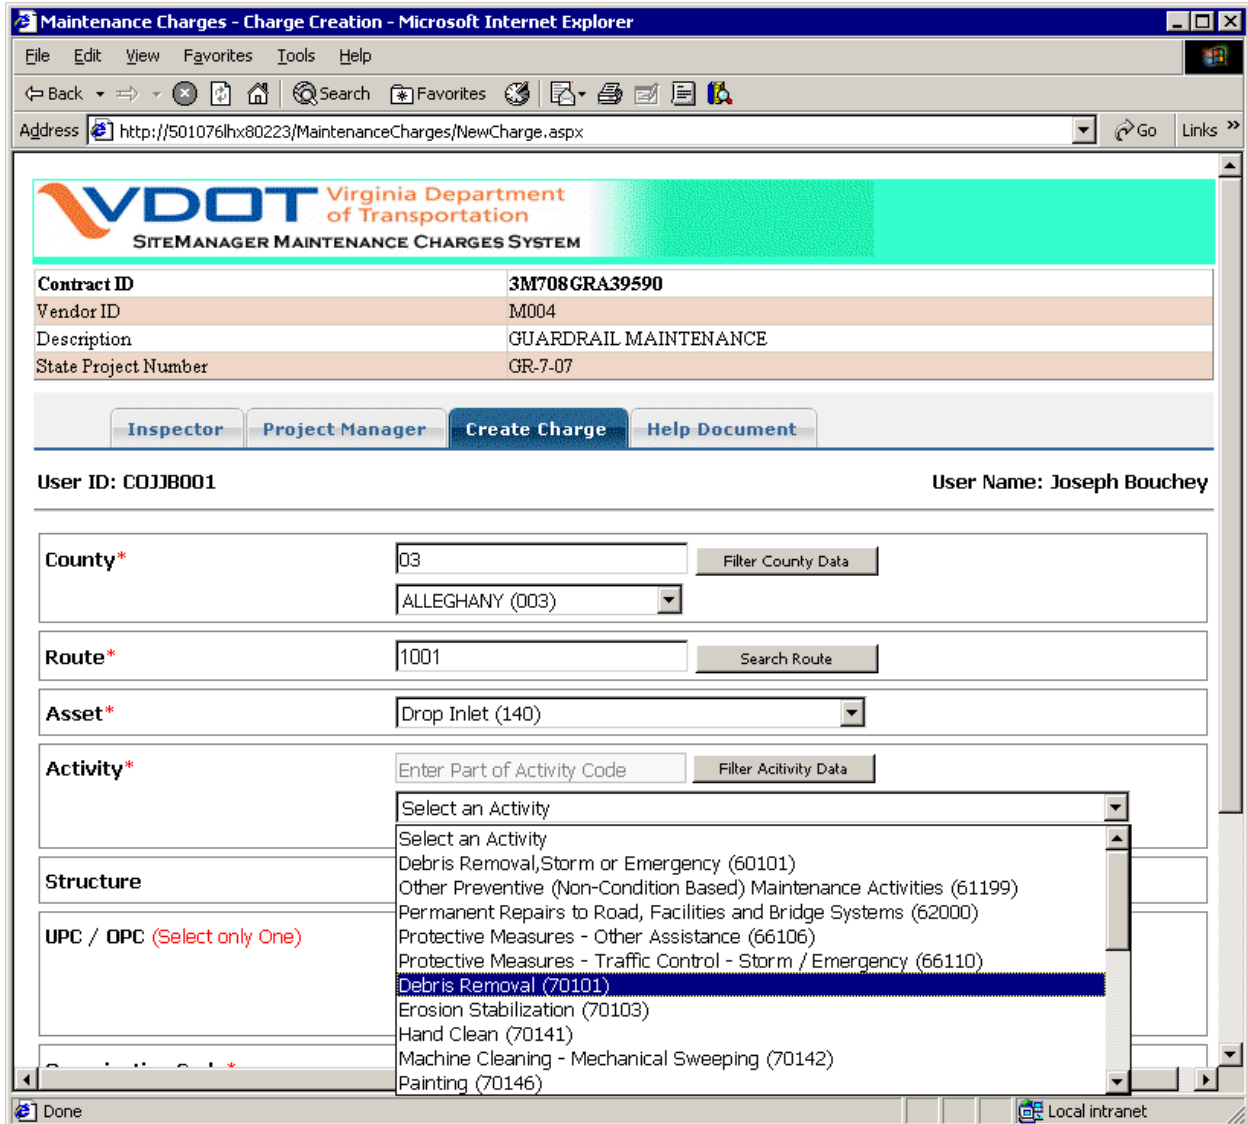

Figure 24
Step 5: Select the Activity associated with the Asset from the Activity Dropdown. (Figure 24)